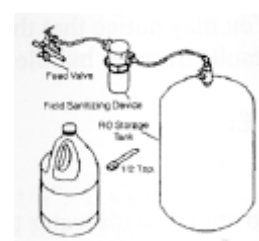

FIG 1
- * Tank sanitiser feeder or small filter housing with fittings and tubing (see Fig. 1)